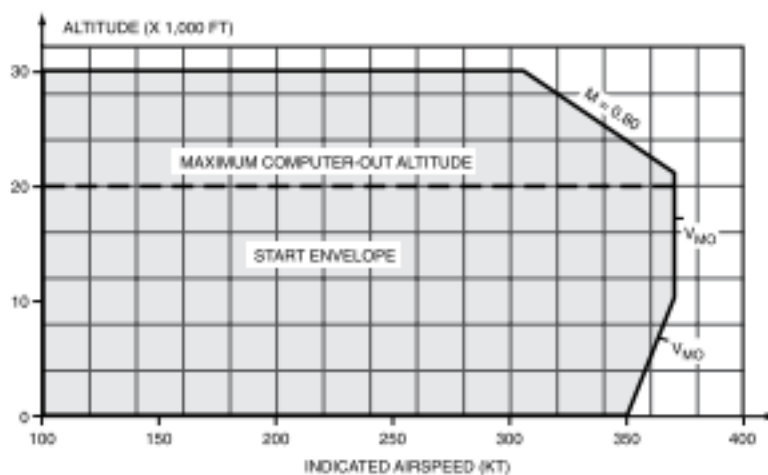

Figure EP-5. Inflight Airstart Envelope
- Establish the aircraft within the airstart envelope (Figure EP-5).